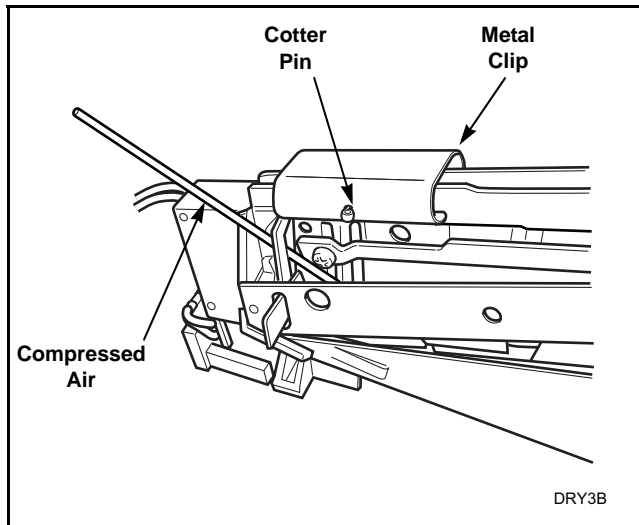

Figure 4
- If lint is preventing coins from rolling through coin drop, blow compressed air through coin entry and along the side of the coin drop. Refer to *Figure 4*.
- Remove cotter pin from top of drop. Refer to *Figure 4*. Save pin for reinstallation when cleaning is complete.
- Move metal clip closer to sensor so that it comes off frame. Refer to *Figure 4*.